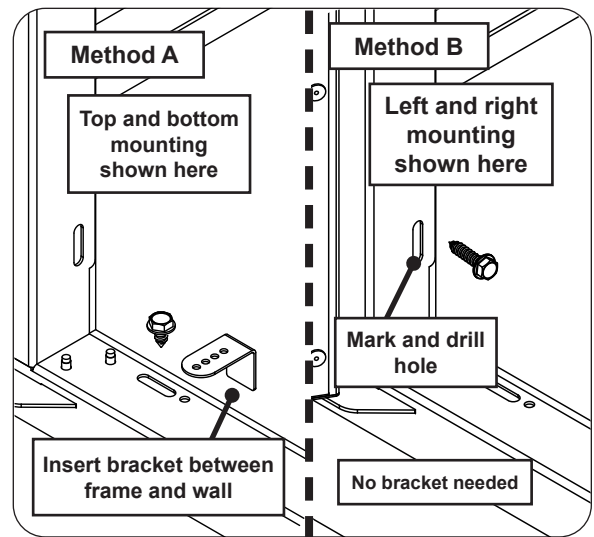

Fig. 2-3 Installation methods
2. Based on the mounting surface/substrate of your island enclosure and the accessibility of your accessory frame, this kit can be installed using two methods (see Fig. 2-3). Install this bracket hardware kit as appropriate.